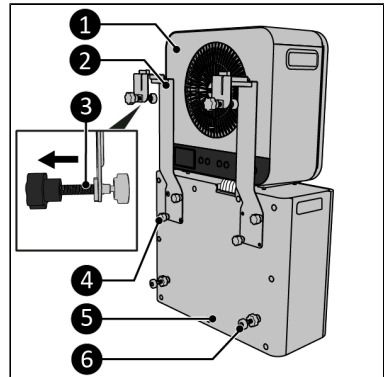

Figure 29.
1. Place the indoor unit (Figure 29, pos. 1) loose on top of the outdoor unit (Figure 29, pos. 5).
2. Remove the four screw caps (Figure 29, pos. 4).
3. Attach both bottom caravan brackets (Figure 29, pos. 2) to the outdoor unit by tightening two screws per bracket (Figure 29, pos. 4).
4. Make sure to screw the adjustment bolts (Figure 29, pos. 3) as far out as possible.
5. Attach the distance holders (Figure 29, pos. 6) to the outdoor unit (Figure 29, pos. 5).
13. Make sure the outdoor unit is level by adjusting the distance screws spacer (Figure 29, pos. 6).